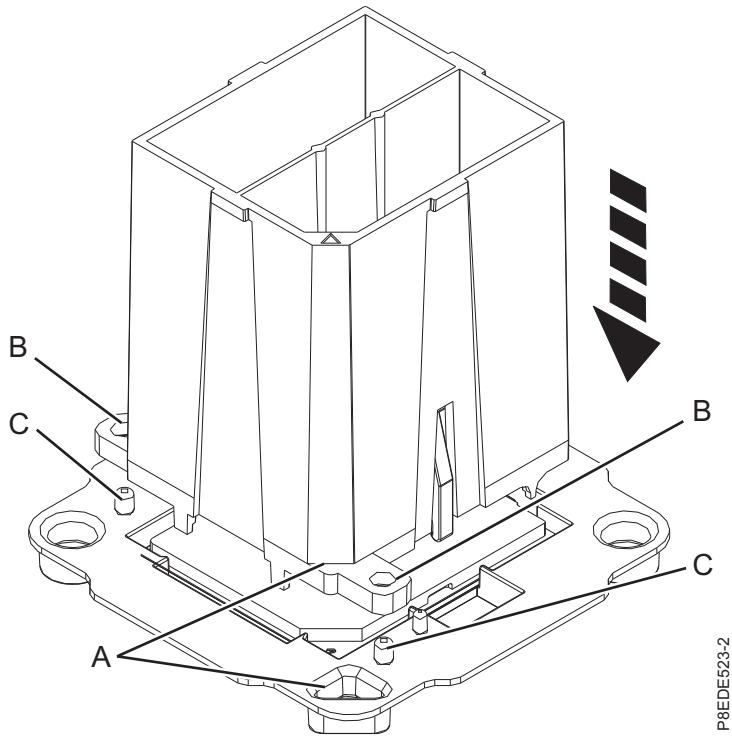
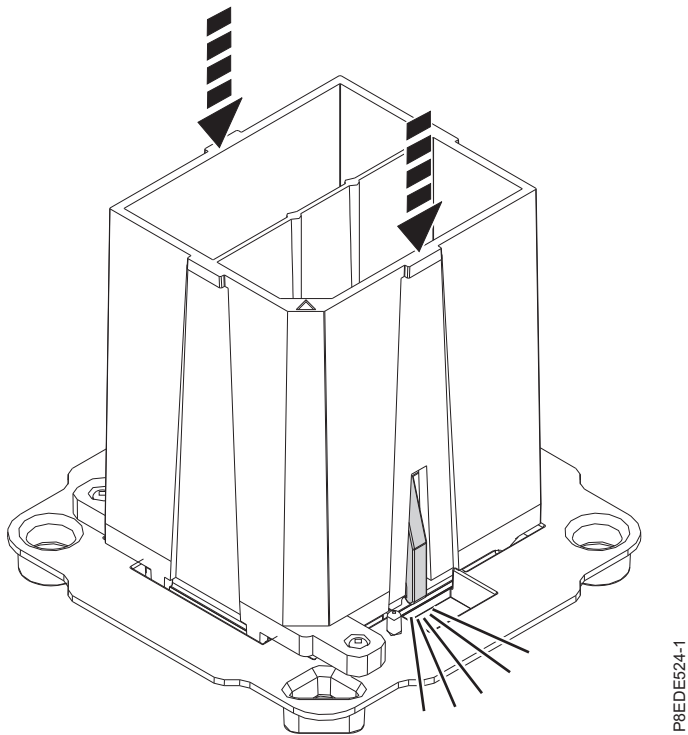

Figure 88. Aligning the removal tool
Figure 89. Locking the system processor module into the tool
- a. Remove the replacement processor module from the shipping tray. Using the supplied removal tool (part number 01AF101), align the beveled corner (**A**) of the tool over the beveled corner of the module, as shown in Figure 88 on page 87.
- b. Lower the tool over the system processor module by ensuring that the two guide pins (**C**) are inserted into the alignment holes (**B**) on each side of the tool, as shown in Figure 88 on page 87. Then, push down on the tool to lock the system processor module into the tool, as shown in Figure 89 on page 87. Do not press the blue release tabs until directed to do so later.